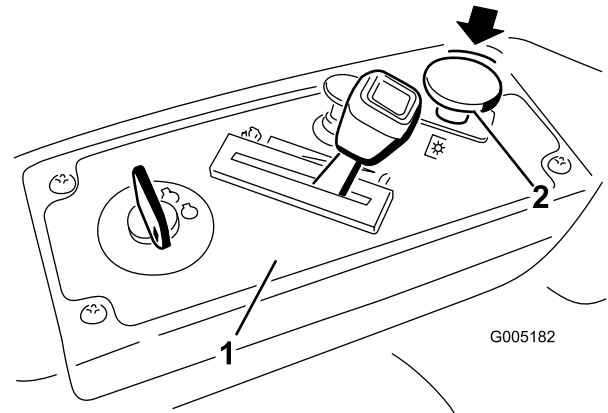

Figure 11
2. Disengage the blades by moving the blade control switch to Off (Figure 11)
3. Turn the ignition key to Off (Figure 11) and remove the key.